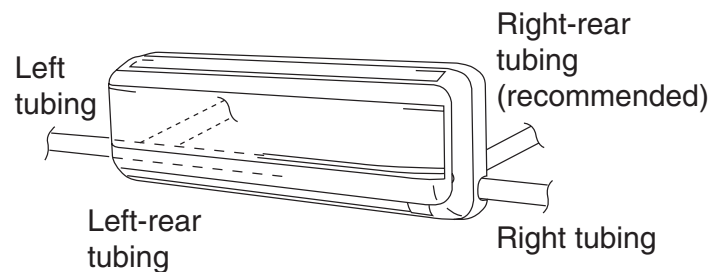

Fig.12
1. Determine which side of the unit you should make the hole for tubing and wiring. (Fig.12)